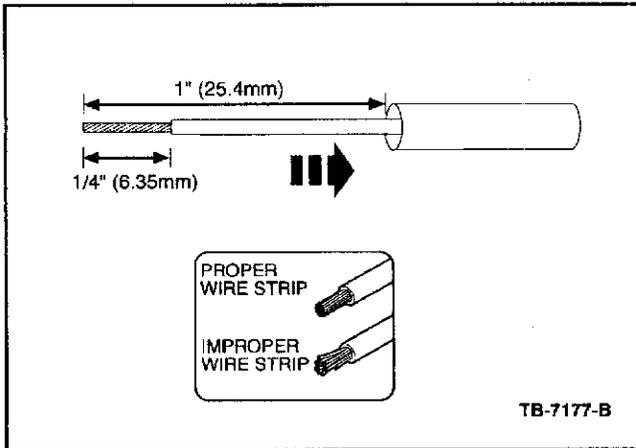

Figure 6 - Article 05-18-7
- Slide heat shrink tubing onto one (1) of the wire ends to be crimped, must be at least 1" (25.4mm) away from stripped end (Figure 6).